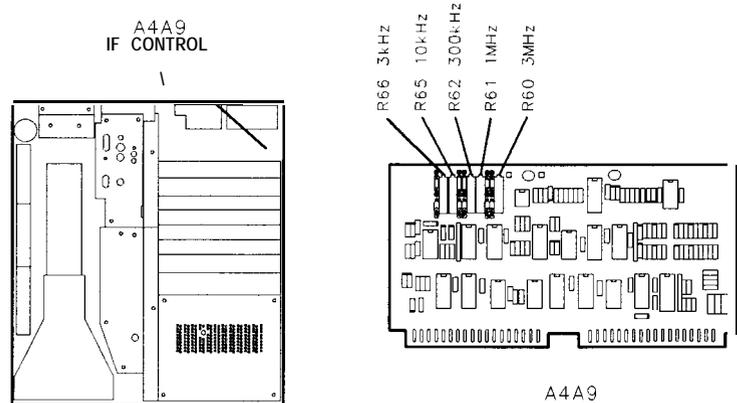

Figure 3-45. Location of 3 dB Bandwidth Adjustments
8. Adjust A4A9R60 3 MHz for MKR A indication of 1.5 MHz while maintaining marker at 3 dB point (.707 X) using DATA knob. See Figure 3-45 for location of adjustment.
14. Adjust A4A9R61 1 MHz for MKR A indication of 500 kHz while maintaining marker at 3 dB point (.707 X) using DATA knob. See Figure 3-45 for location of adjustment.
20. Adjust A4A9R62 300 kHz for MKR A indication of 150 kHz while maintaining marker at 3 dB point (.707 X) using DATA knob. See Figure 3-45 for location of adjustment.
26. Adjust A4A9R65 10 kHz for MKR A indication of 5.00 kHz while maintaining marker at 3 dB point (.707 X) using DATA knob. See Figure 3-45 for location of adjustment.
32. Adjust A4A9R66 3 kHz for MKR A indication of 1.5 kHz while maintaining marker at 3 dB point (.707 X) using DATA knob. See Figure 3-45 for location of adjustments.